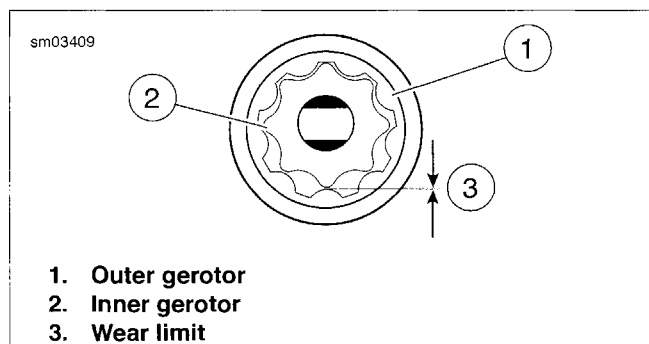

Figure 3-167. Gerotor Wear Limits
2. See Figure 3-167. Inspect both gerotor sets for wear.